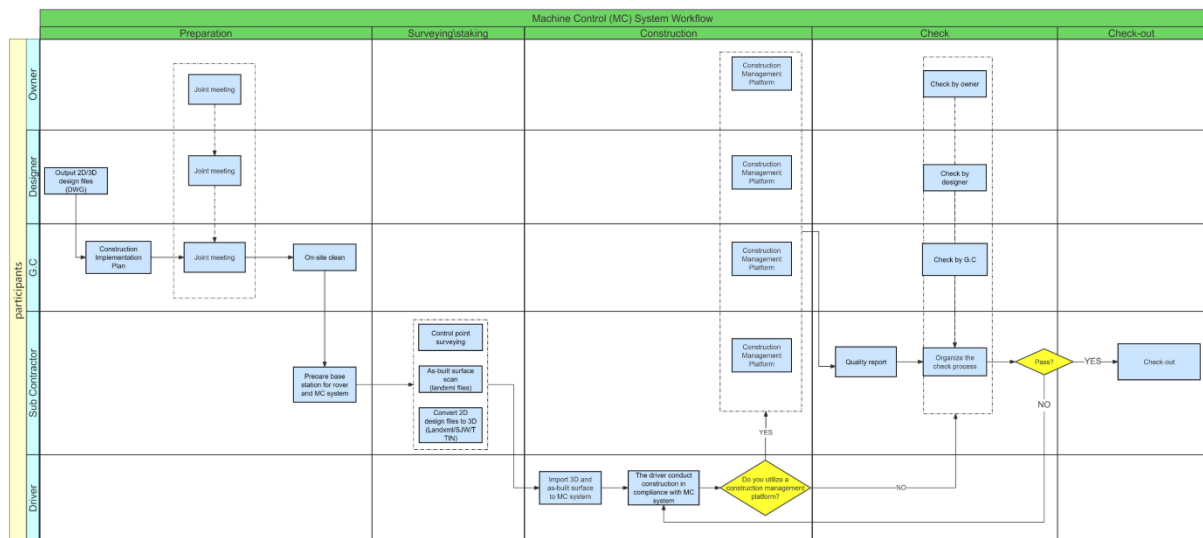

Figure 2-MG Workflow
Traditional workflow involves multiple specialized roles: a designer provides precise hole coordinates to the construction company, a surveyor conducts the site layout and staking, and a machine operator follows the surveyor's guidance to complete the drilling tasks. In contrast, the Machine Guidance (MG) system streamlines this process, enabling a single operator to execute the entire construction workflow while ensuring high precision compliance, as illustrated in Figure 2.